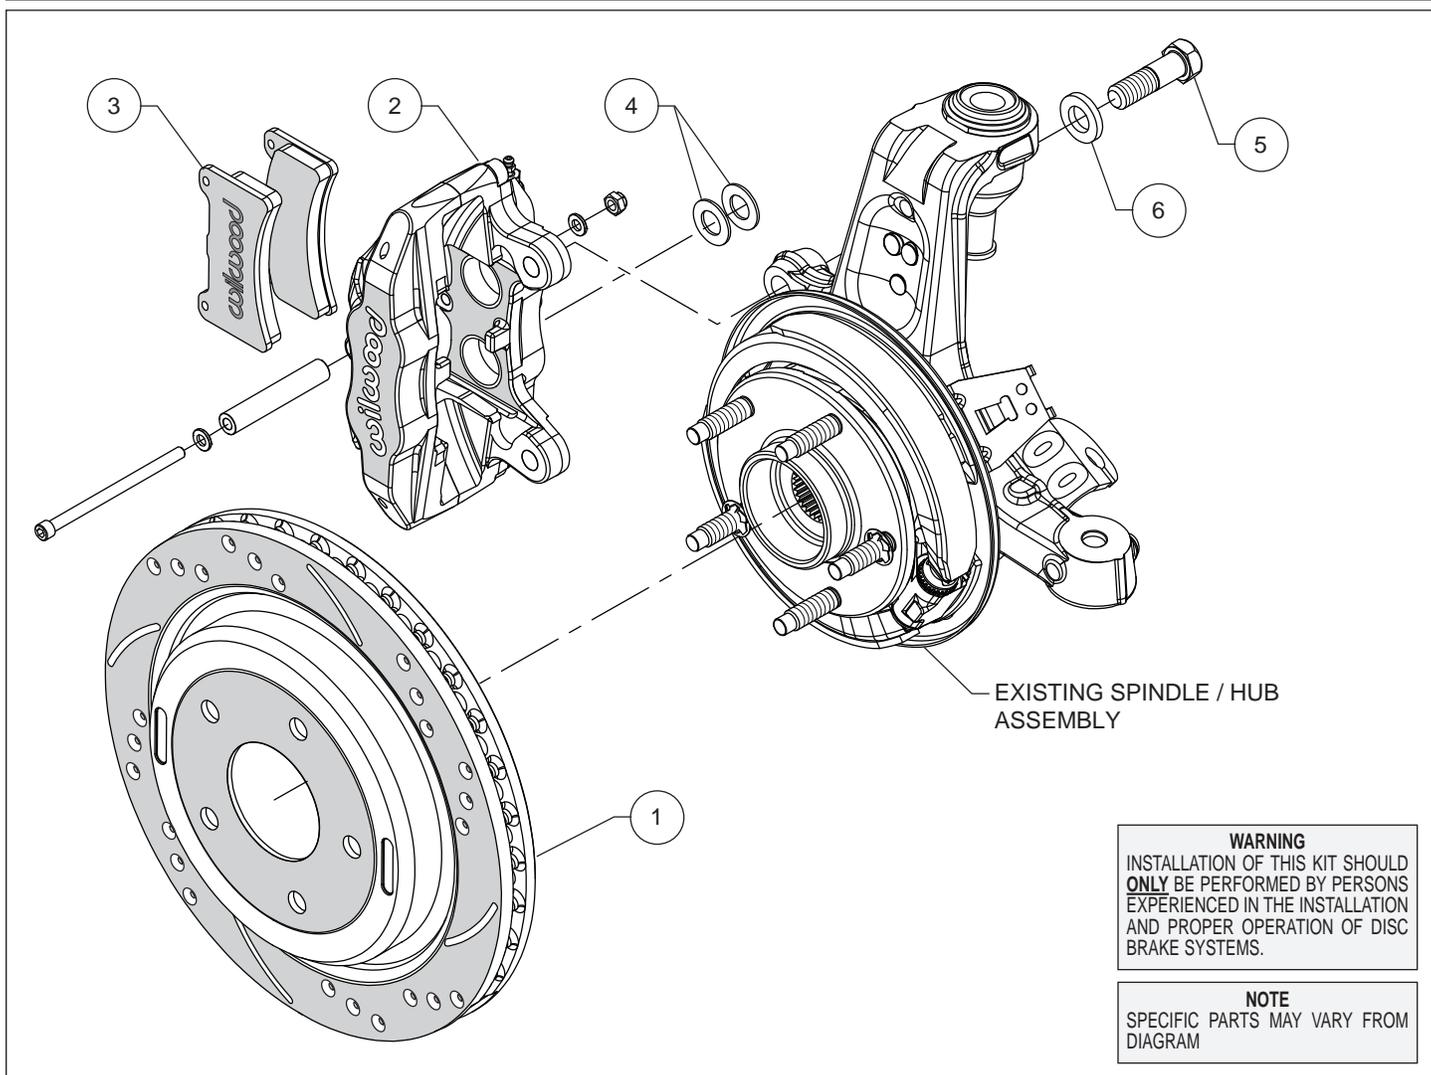

Figure 1. Typical Installation Configuration
**Assembly Instructions** (numbers in parenthesis refer to the parts list and Figure 1 on the preceding page): **CAUTION: All mounting bolts must fully engage threaded holes.**
- Slide the rotor/hat (1) onto the axle hub. **NOTE: The hat must fit flush against the axle hub flange or excessive rotor run out may result.** Install three lug nuts (finger tight) to keep the rotor/hat in place while continuing with the installation.
- Install the Wilwood DPC56 caliper (2) in the exact position as the original caliper, Photo 1. Secure the caliper to the OE mounting tabs using bolts (5) and washers (6). Apply red *Loctite*® 271 on the bolt threads and torque to manufacturer's specifications.